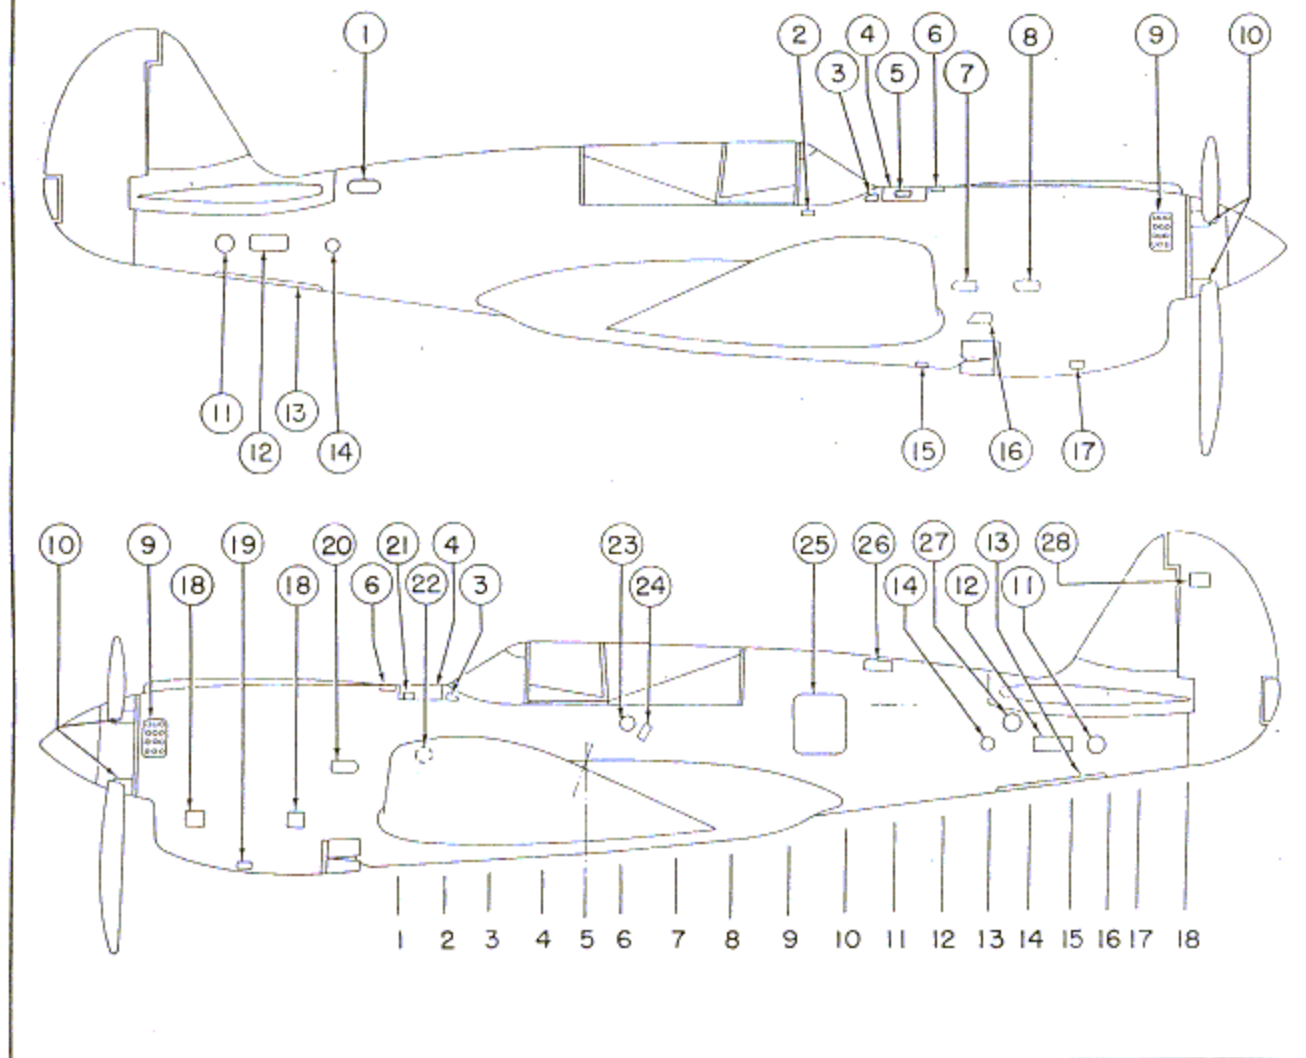

Figure 19—Fuselage Access Doors and Stations
a. Access doors and their relative station positions are shown in figures 19 and 20. These doors provide access for inspection, adjustment and servicing purposes.